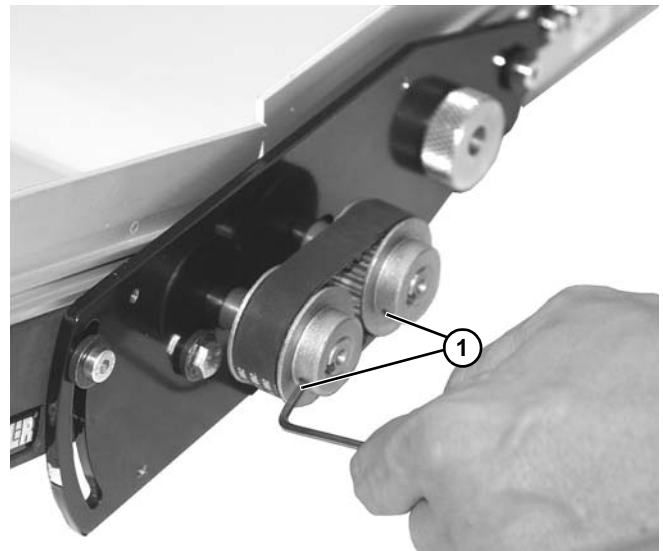

Figure 77
2. Loosen set screws (Figure 77, item 1) on pulleys.